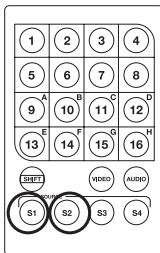

Figure 5-5. S1/S2/S3/S4 buttons on the remote control.
3. Press "S1" or "S2" to route source 1 or 2 to monitor 4 (M4). See Figure 5-5.